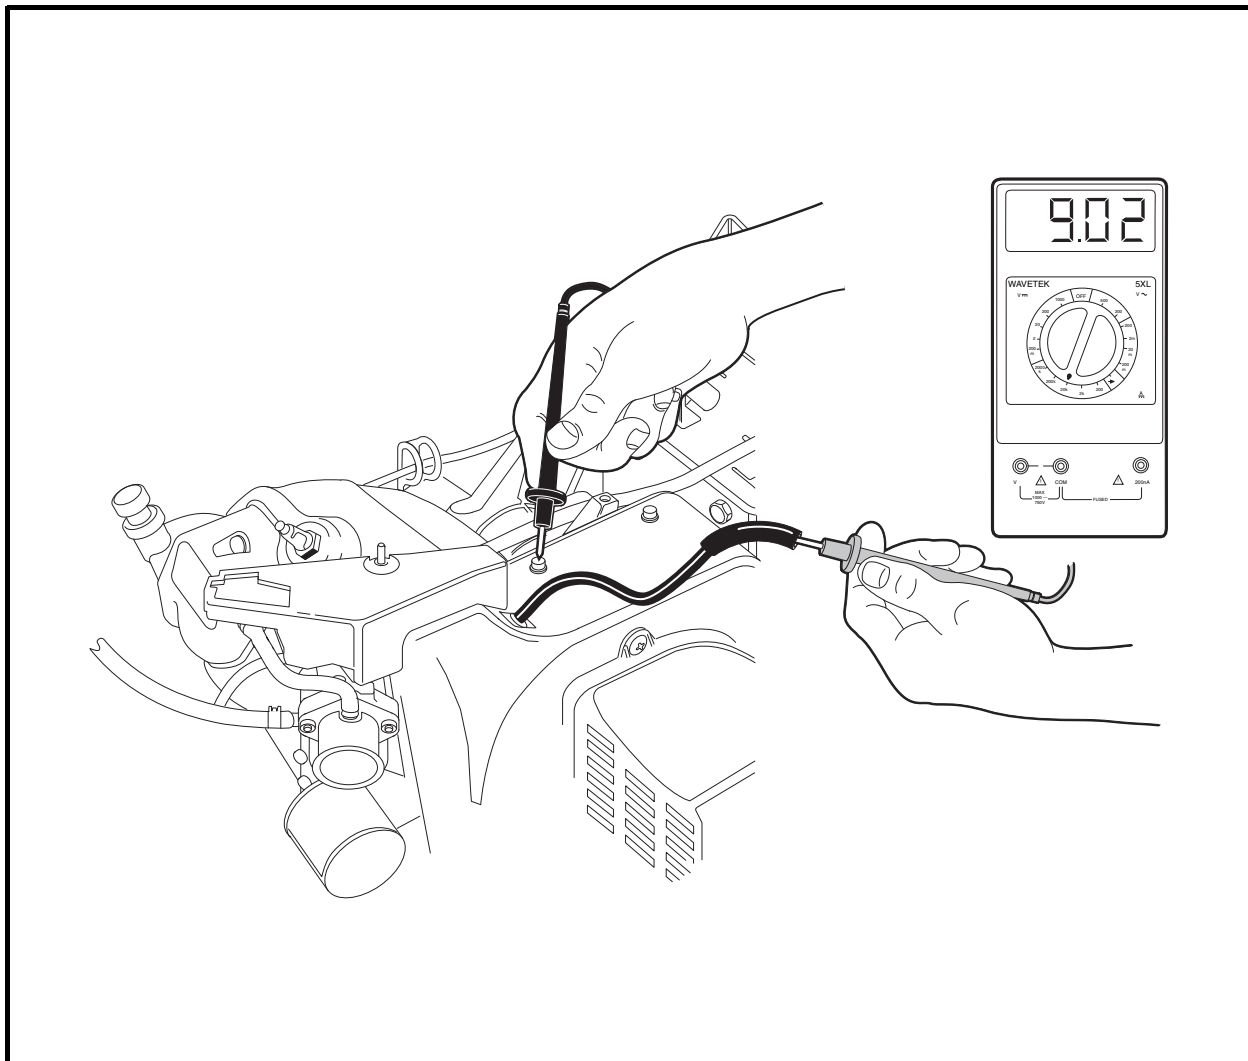

Figure 11-31 Secondary Coil Test Without Cap
- 6.1. Using a multimeter set to 20k ohms, place the red (+) probe of the meter into the end of the spark plug wire and place the black (-) probe on a clean unpainted surface of the engine or frame (**Figure 11-31, Page 11-28**). If the resistance is between 6.0k - 11.0k ohms, the secondary coil is within acceptable limits. If the resistance is not between 6.0k - 11.0k ohms, bench test the ignition coil.